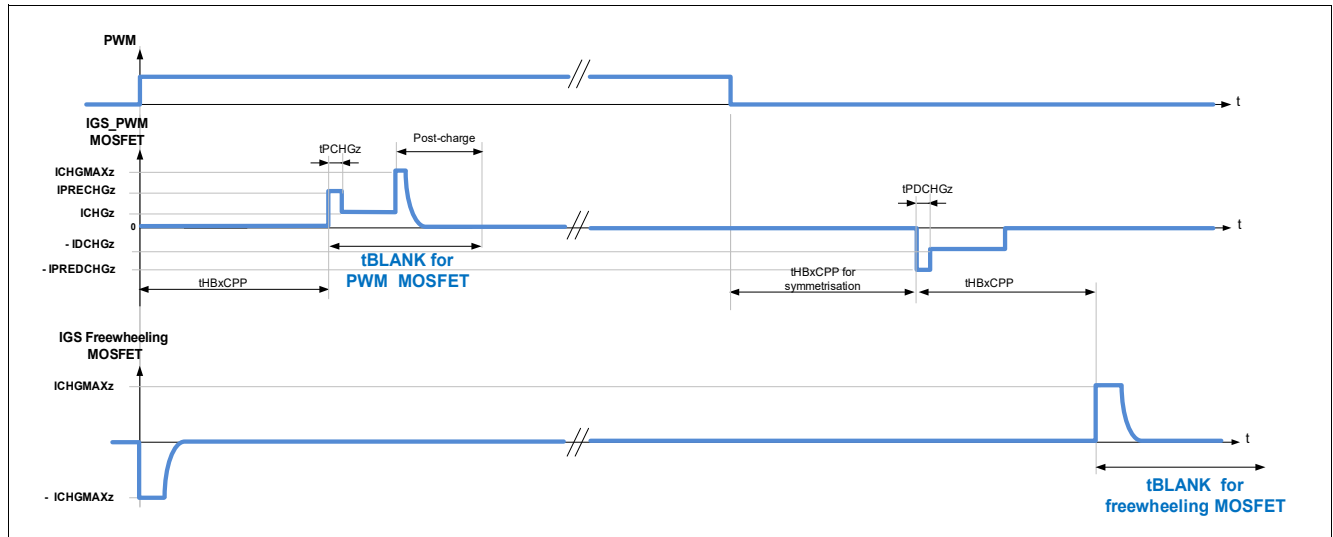

Figure 88 Blank time for half-bridges in PWM operation with AFW = 1
- the blank time of the PWM MOSFET starts at the expiration of the cross-current protection time of the PWM MOSFET. Refer to Figure 88.
- the blank time of the free-wheeling MOSFET starts after expiration of the cross-current protection time at turn-off of the PWM MOSFET. Refer to Figure 88.